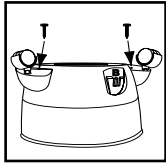

FIGURE 3
4. Make sure caster feet are fully inserted into tank bottom and secure with screws provided. **FIGURE 3**.